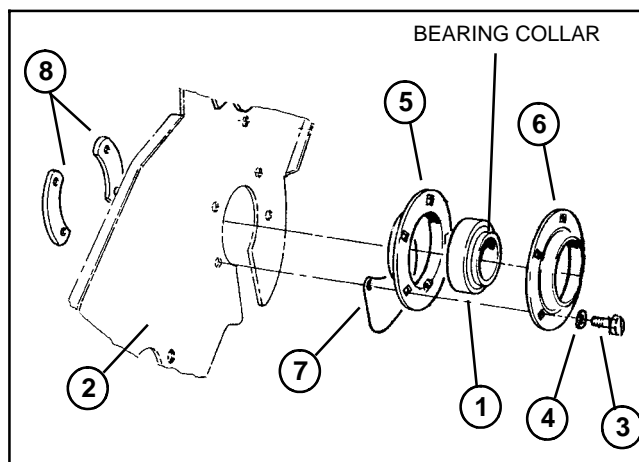

Figure 23
3. Remove bearing from drum shaft and frame as follows (Fig. 23):
2. Install bearing to the drum shaft and frame as follows (Fig. 23):